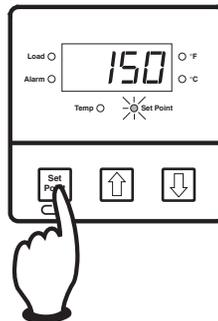

Figure 1.2
2. To adjust the set point on the CN 2110 Temperature Controller, press and hold the Set Point button (see Figure 1.2). The Set Point light is illuminated.